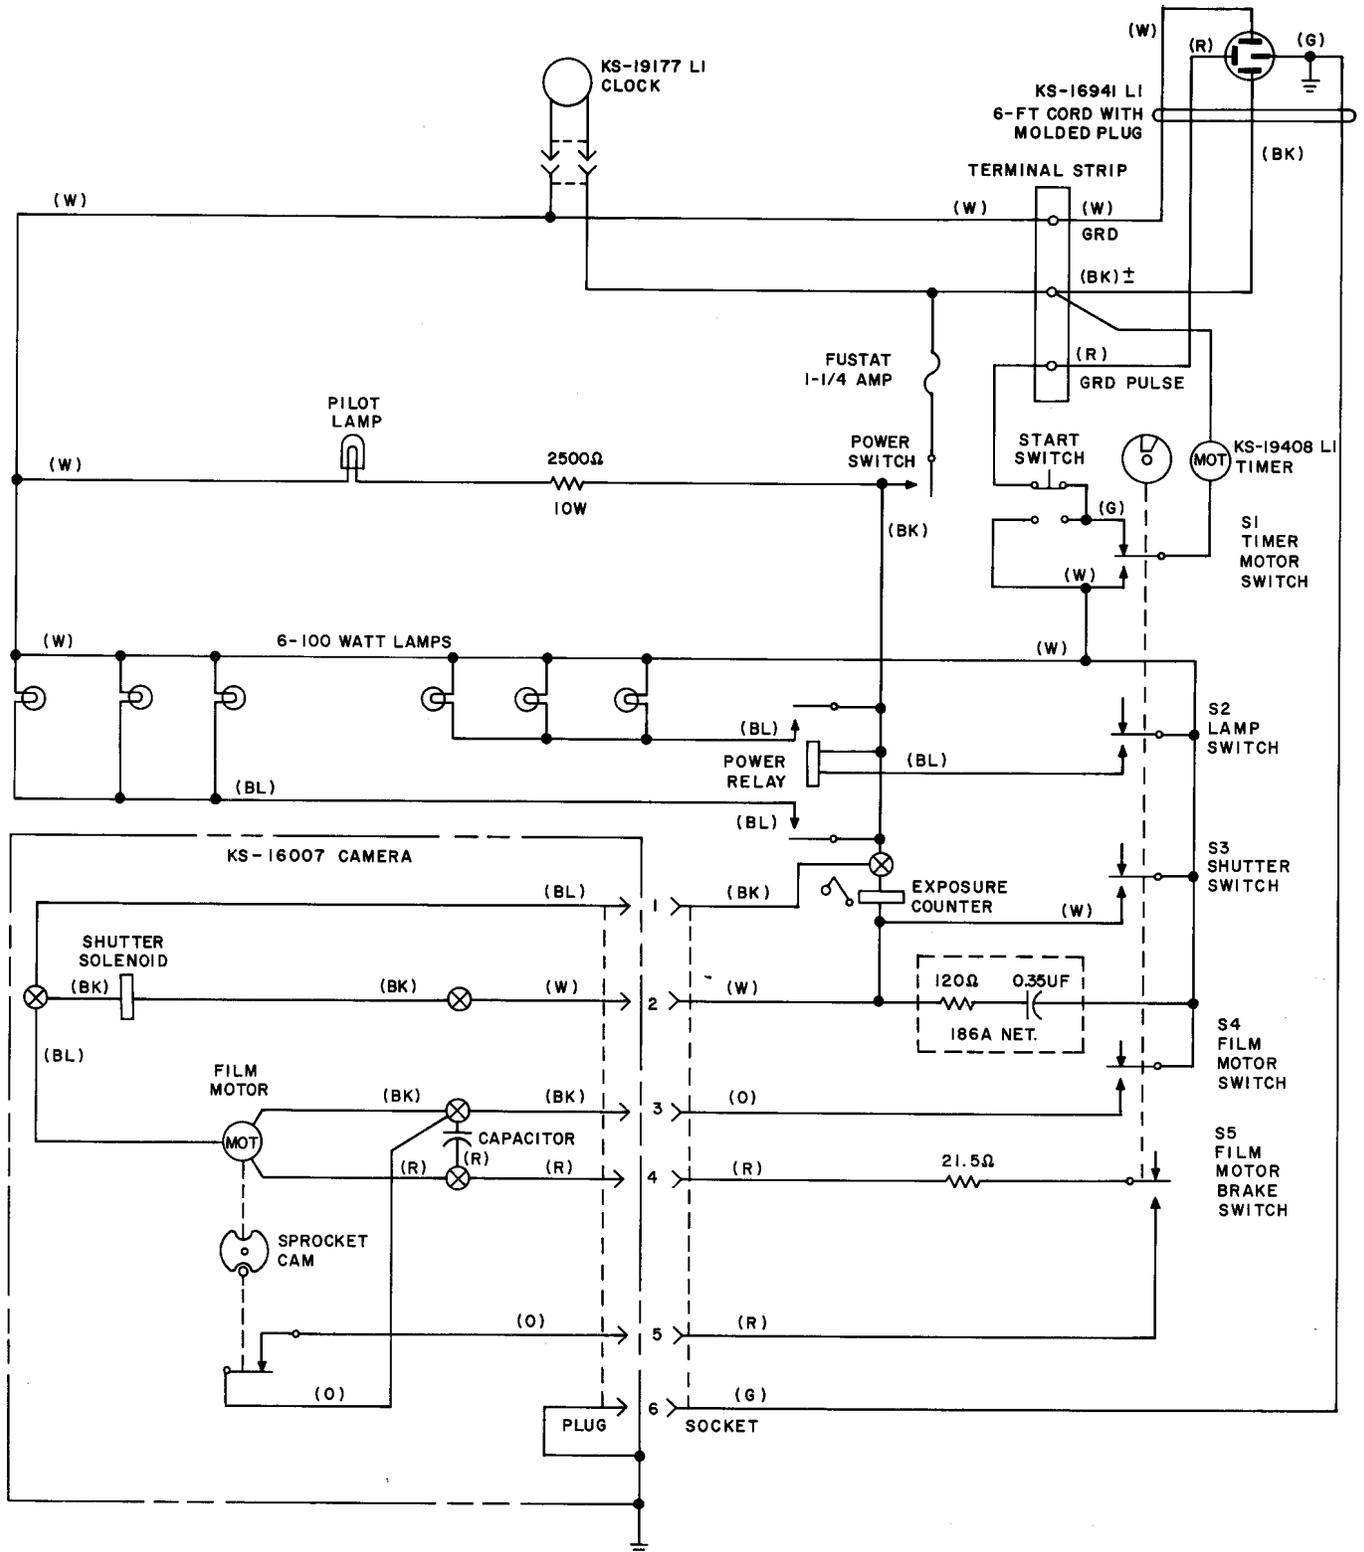

Fig. 12—KS-14776 Camera—Circuit Schematic
- (1) Failure to meet this requirement may be due to one or more of the following conditions:
Procedures for correcting each of these conditions are covered below in (2) through (8). Reference should be made to 4.01 and Fig. 12 in connection with these procedures.
(1) Figure 12 shows a schematic of the circuit of the KS-14776 camera. As shown in the figure, the circuit terminates in a 4-conductor cord. Two conductors of this cord are connected to the 120-volt, 60-cycle power supply. The third conductor carries a 3-second ground pulse which is sent out from the control panel when a photograph of the registers is to be taken. The fourth conductor provides a safety ground.
(2) Referring to Fig. 12, the following outline indicates the sequence of operation of the various parts of the camera after the cycle is started by the ground pulse. One cycle is completed in 5 seconds.